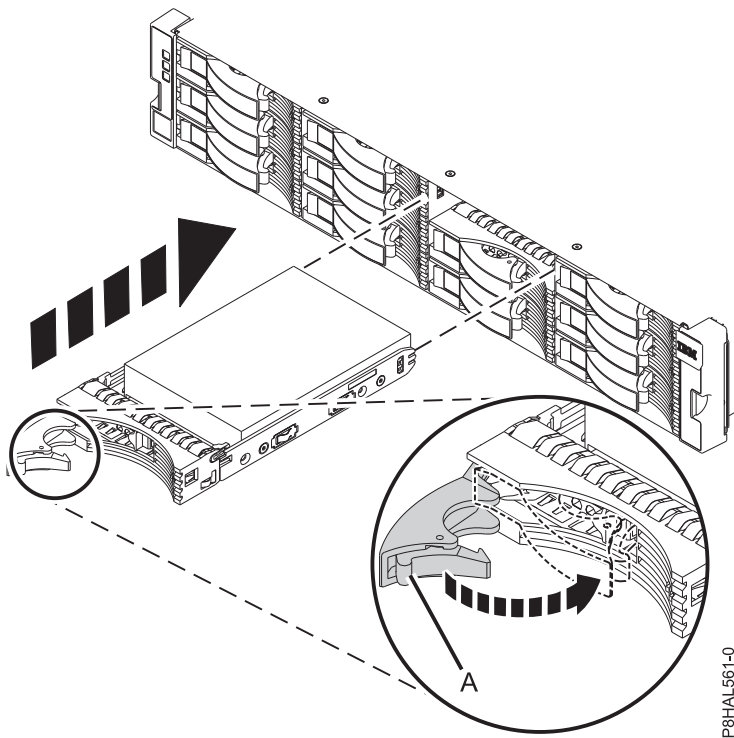
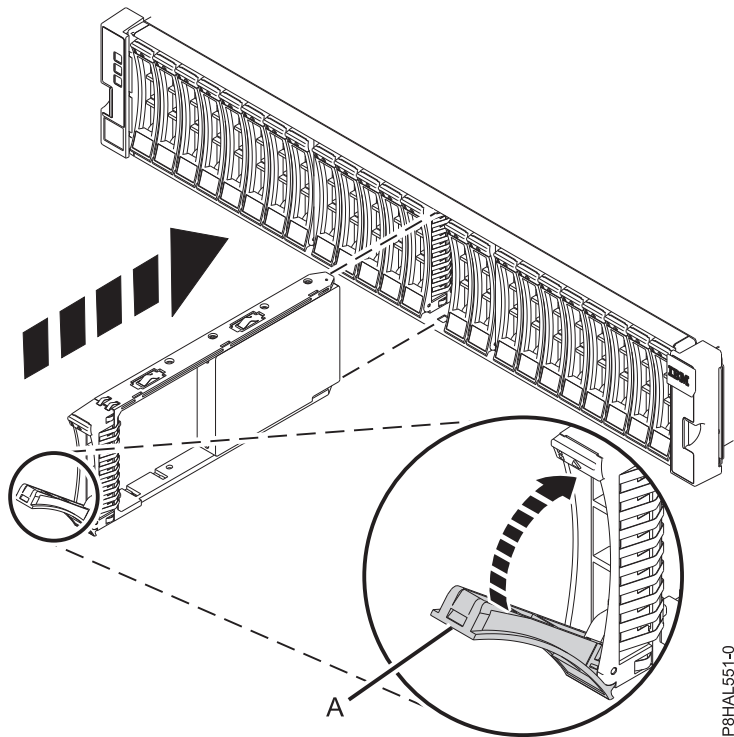

Figure 10. Installing a disk drive in the ESLL storage enclosure
Figure 11. Installing a drive in the 5147-024 or ESLS storage enclosure
3. With the handle in the unlocked position, support the bottom of the drive as you align it with the guide rails in the disk drive enclosure. See Figure 10 on page 10 or Figure 11 on page 10